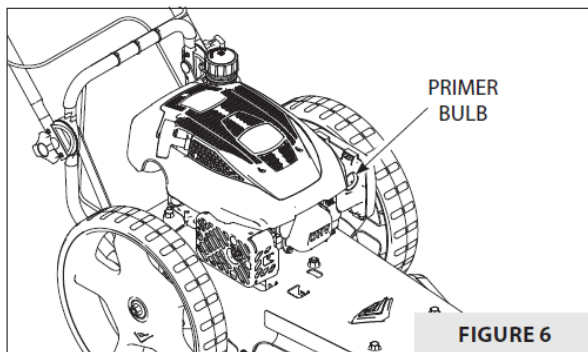

FIGURE 6
1. Push the primer bulb three times. Wait approximately two seconds between each push. **SEE FIGURE 6.**
3. To start a cold engine, push the primer bulb three times. Wait two seconds between each push of the primer bulb. **SEE FIGURE 6**.